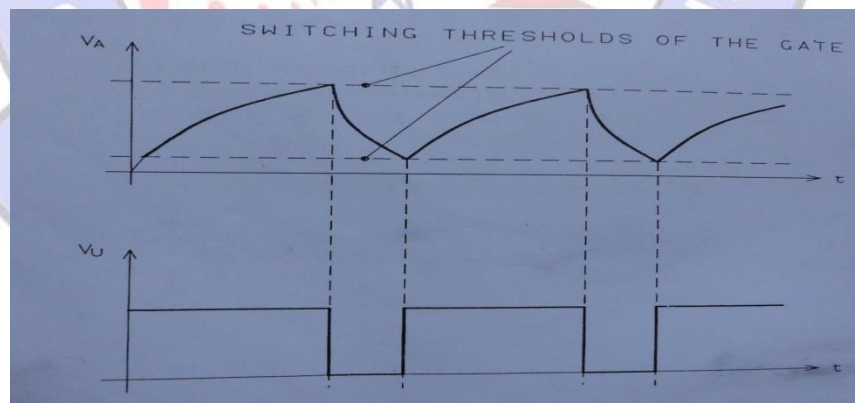

Figure 2: Waveshapes for the circuit of fig.1..
- The switching threshold of the gate is again met and the cycle is repeated. The light indicating the output level blinks. Typical waveshapes are shown in figure 2.